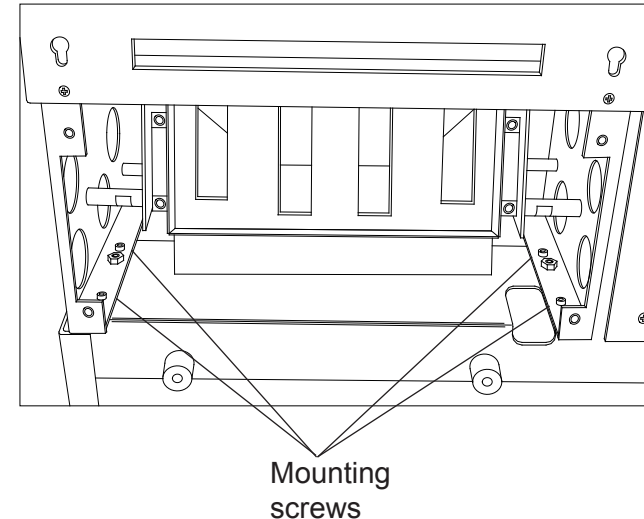

Fig. 11
3. Remove the two lower side-infill covers from the rear of the folder (2 x Csk Head screws each side). This will provide access to the four mounting screws (see Fig. 11 below).